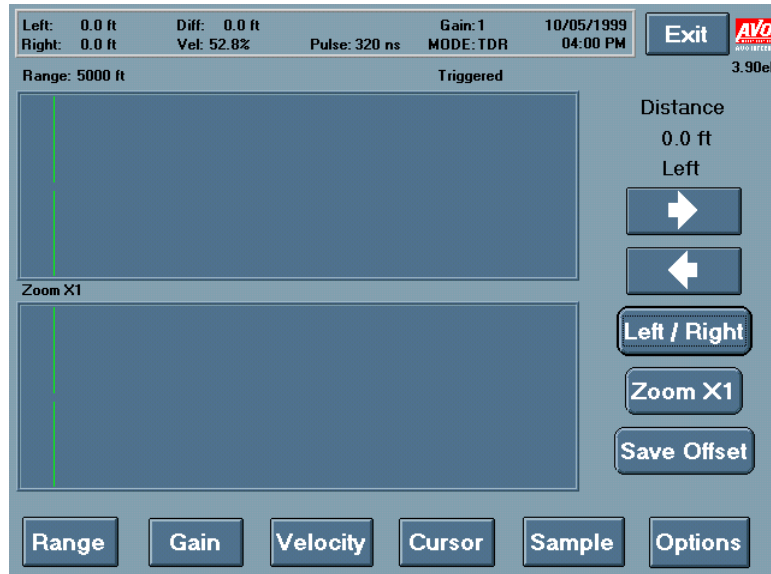

Figure 6-29 Left Cursor Adjustment Screen
3. Press **Cursor** and then **Left / Right** to activate the left cursor (Figure 6-29). Press **←** to move the cursor to the left and **→** to move the cursor to the right. Locate the test cable end by momentarily touching the ends of the leads together and observing the open-end reflection changing from upward to downward. Position the left cursor at the end of the test leads at the very start of the downward pulse as the lead ends are shorted.